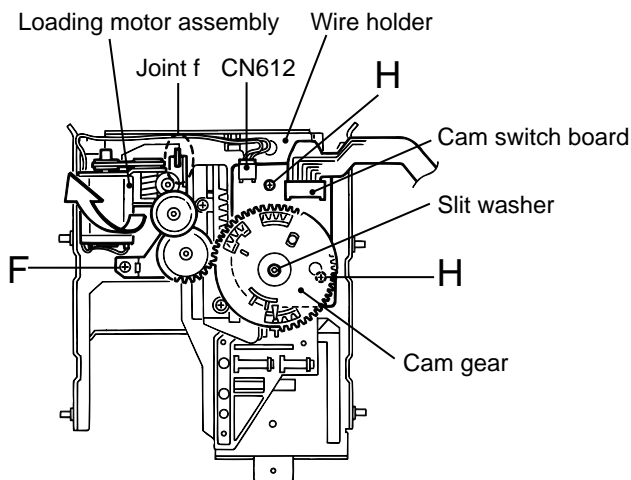

Fig.12
(See Fig.12 and 13)
■Removing the cam gear and the cam switch board (See Fig.12)